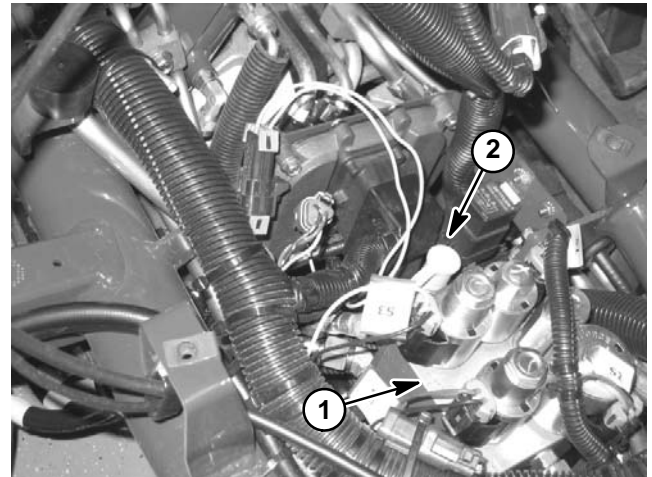

Figure 23
5. Install 1000 PSI (70 bar) pressure gauge with hydraulic hose attached to lift control manifold test port (G) (Fig. 23).